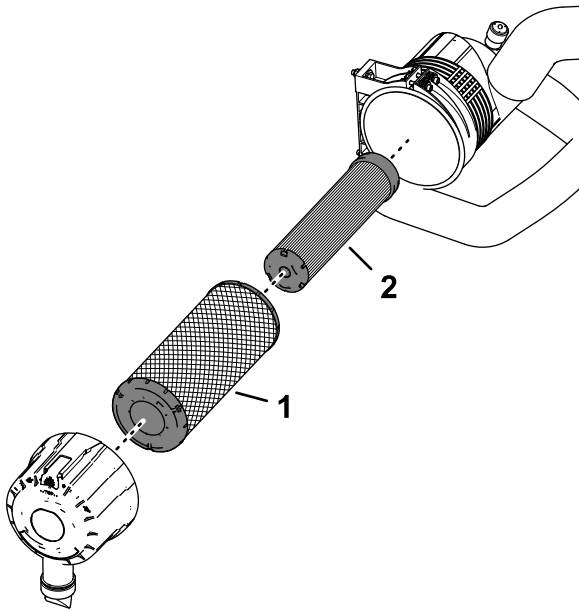

Figure 65
1. Check the safety-filter element (Figure 65). If it is dirty, replace it.
Important: Never attempt to clean the safety filter (Figure 65). Replace the safety filter with a new one after every 3 primary filter services.